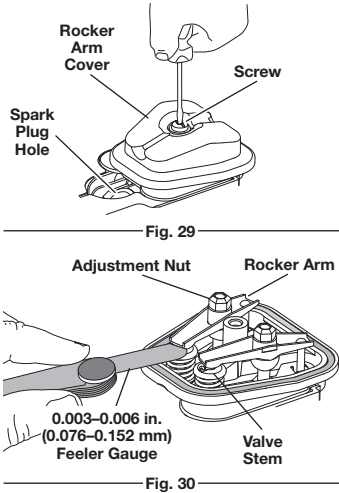

Fig. 29
8. Reinstall the rocker arm cover using a new gasket (Fig. 29). Torque the screw to: 20–30 in•lb (2.2–3.4 N•m).